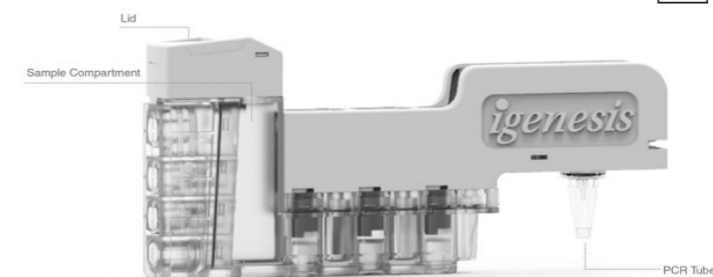

Figure 1. Flu-RSV iCassette (Lateral View)
1.3 Open the lid of the iCassette, and pipette 200 µl of sample or controls to the Flu-RSV iCassette sample compartment as shown in Figure 1. slowly, close the lid tightly. (Note: After the sample is added to the iCassette, the test needs to start running within 30 minutes)